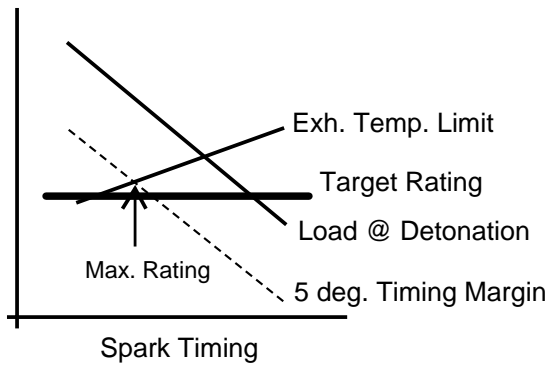

Figure 2.
4. The next step is to retard the timing 5 degrees from the load limit line, as shown by the dotted line in Figure 2.